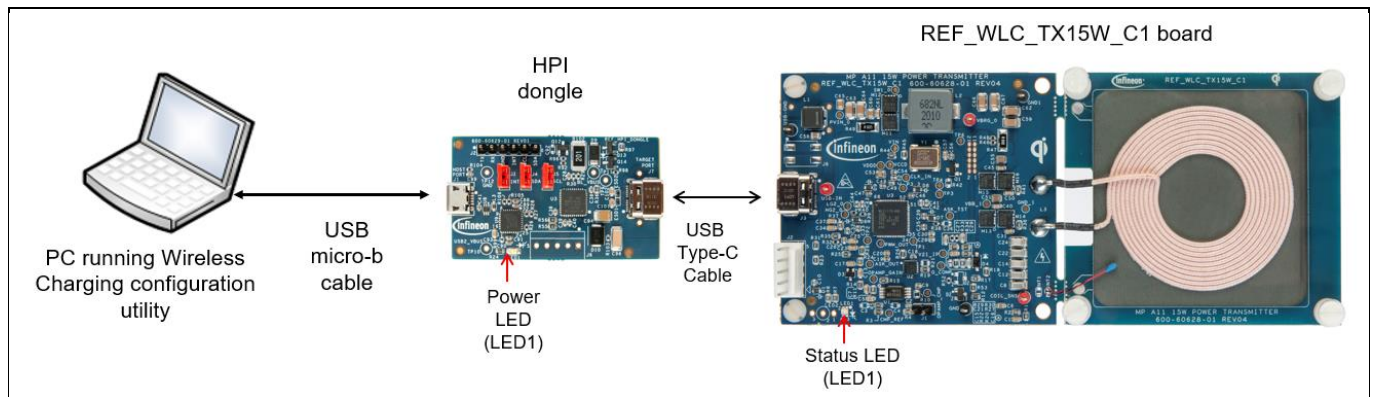
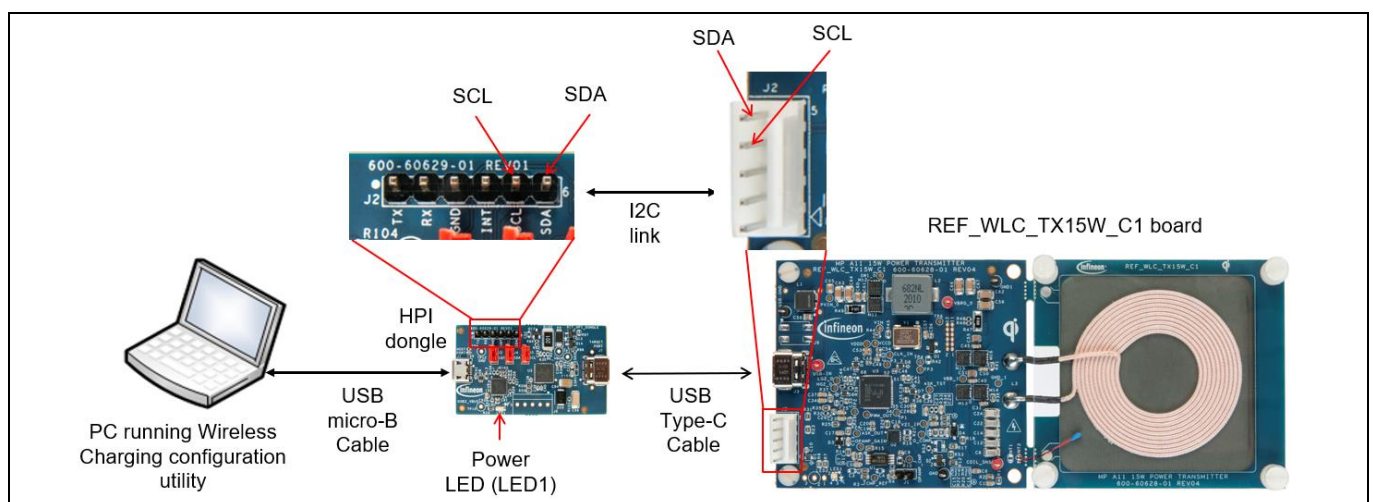

Figure 9 USB CC communication-based set-up
Figure 10 I2C communication-based set-up
Figure 9 describes the set-up to download configuration data or firmware over the USB CC interface of the WLC1115 controller.
Figure 10 describes the set-up to download configuration data or firmware over the I2C interface of the WLC1115 controller.
- b) Create the USB CC communication-based (Figure 9) or I2C communication-based (Figure 10) hardware set-up to configure the firmware using Wireless Charging Configuration Utility.